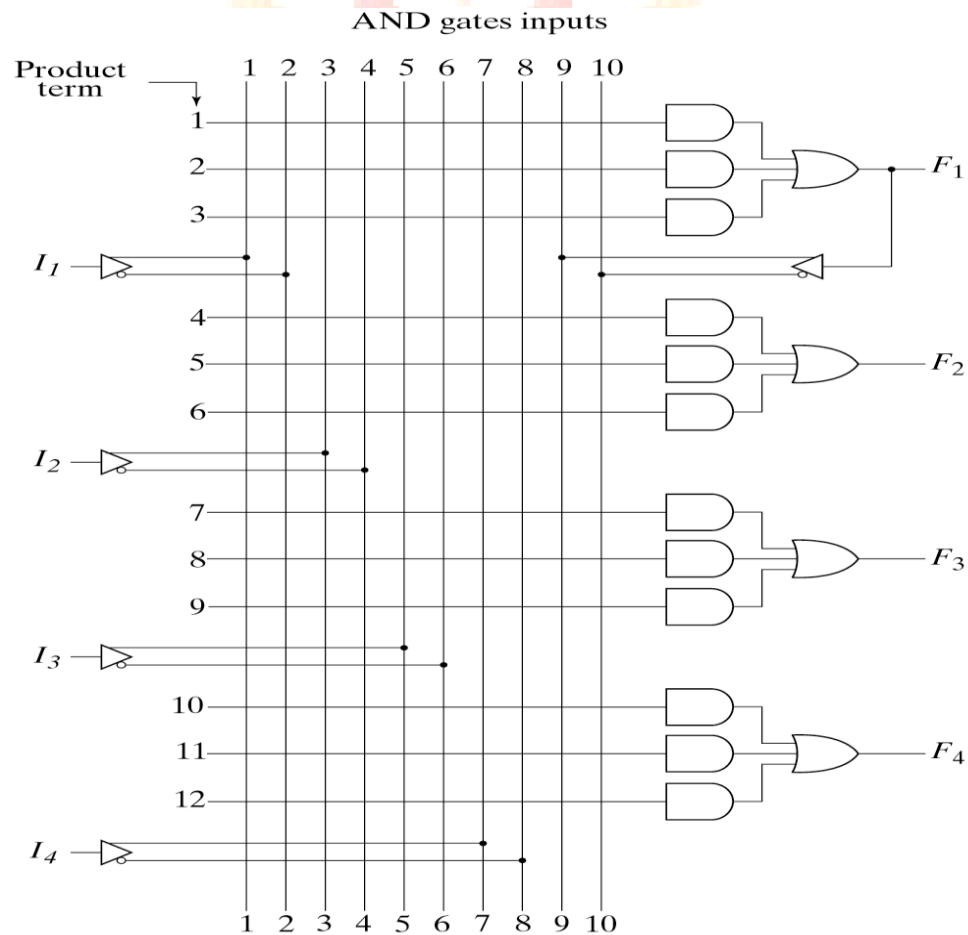

Fig. 7-16 PAL with Four Inputs, Four Outputs, and Three-Wide AND-OR Structure
- The AND-OR array is the same as in the combinational PAL shown in Fig.7-16.